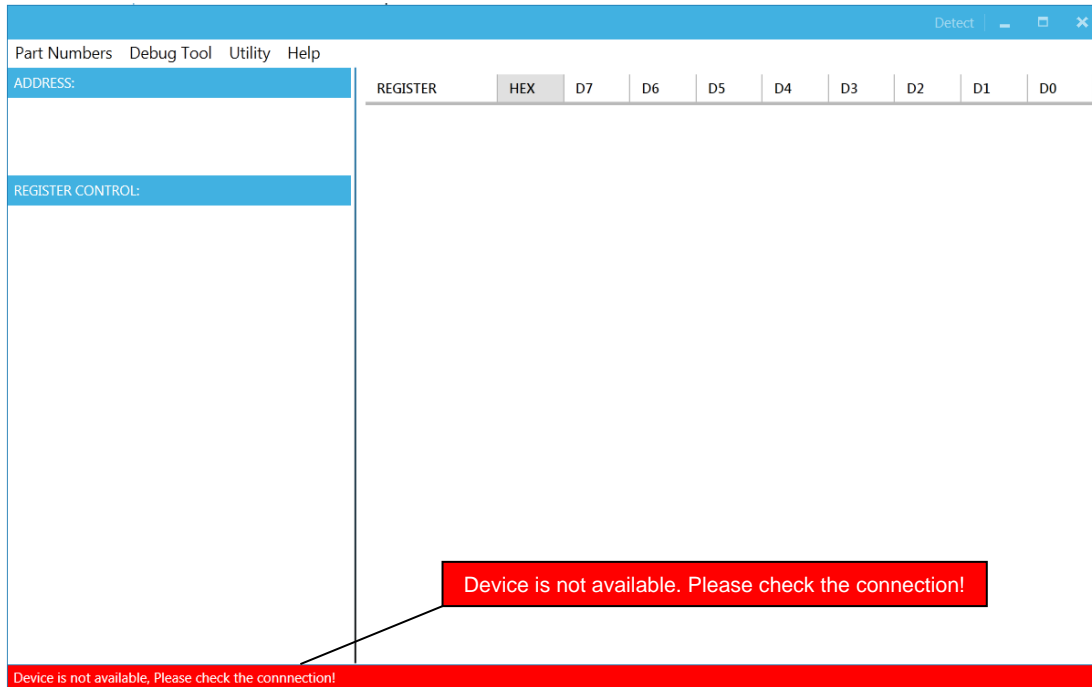

Figure 9: Warning Indicates Unsuccessful Connection – USBI2C Communication Interface Device is Not Connected
- 2) “Device is not available. Please check the Connection!” This means that the USB I2C communication interface device is not connected (see Figure 9).
The screenshot shows the same software window as Figure 9, but now displaying a table of I2C register values. The window title is 'EV8862-Q-00A 2.8-22V VIN,2A IOUT,4-SWITCH,INTEGRATED BUCK-BOOST CONVERTER WITH I2C INTERFACE'. The left sidebar shows 'REGISTER CONTROL' with expanded options: INTERRUPT, VOUT, CURRENT, CONTROL, and MASK. The main table displays the following data: